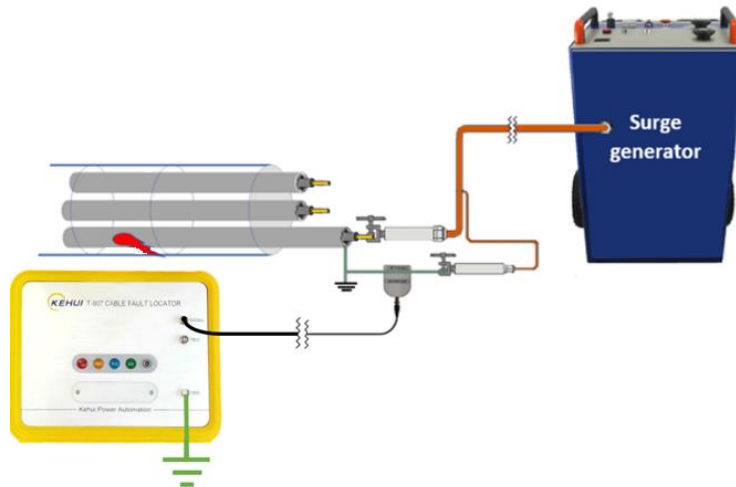

Figure 4.23 T-907 connected to a third-party surge generator when using the ICM Decay method
Pressing on MIM (Figure 4.3 ⑭) brings up the MIM mode display (figure 4.23).